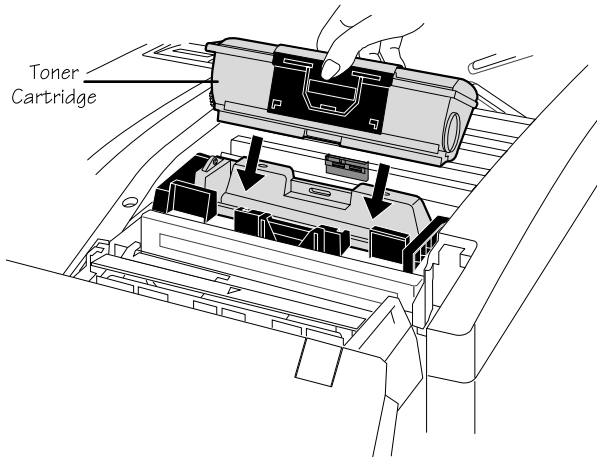

Fig. 2.11 Align Cartridges (rear view)
8. Hold and squeeze the toner cartridge across the center (fig. 2.11), and align it with the developer cartridge of the same color. Make sure the pins on the back side of the toner cartridge line up with the notches on the developer cartridge.
9. Lower the toner cartridge until it fits firmly onto the notches on the developer cartridge (fig. 2.11).